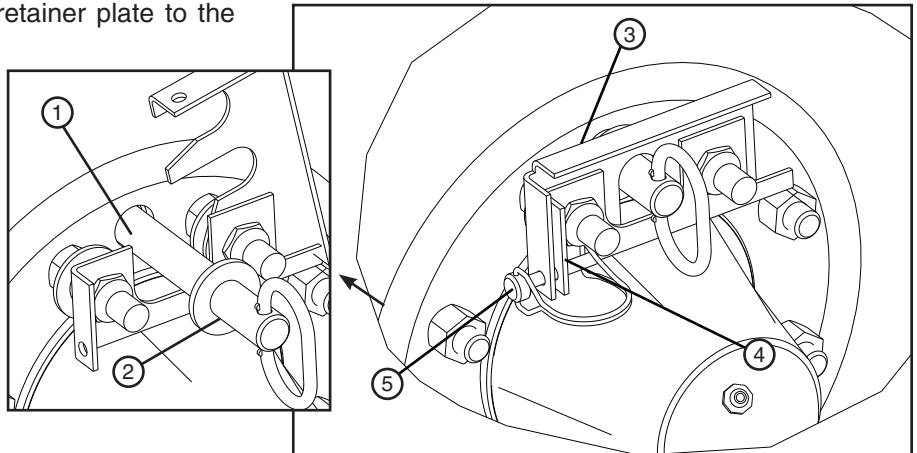

Figure 41-2 1. Hub Torque Pin Receiver 4. Retainer Clip
- Rotate the tire until the hole in the hub torque pin receiver is aligned with the hole in the axle torque arm. Install the torque pin and close the retainer plate. Secure the retainer plate to the retainer clip with the lynch pin. See figure 41-2.